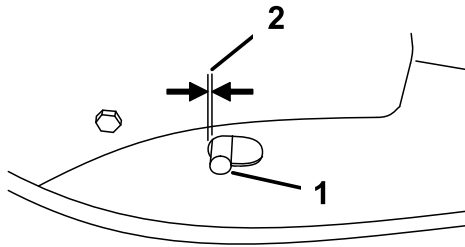

Figure 29
2. With the traction lever disengaged, check the pin in the elongated slot in the left side of the machine above the tire (Figure 29).
Note: There should be a gap of 6 mm (1/4 inch) from the front of the slot to the front edge of the pin (Figure 29).